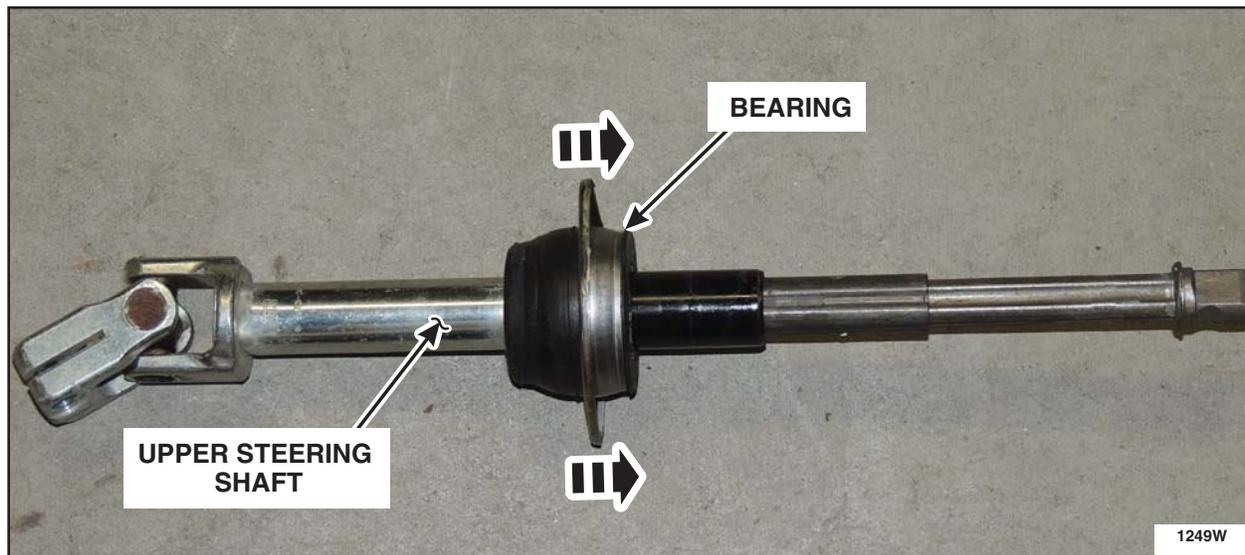

FIGURE 4
5. Remove the bearing from the upper steering shaft. See Figure 4.
6. *Install the bearing onto the new upper steering shaft. See Figure 4.*